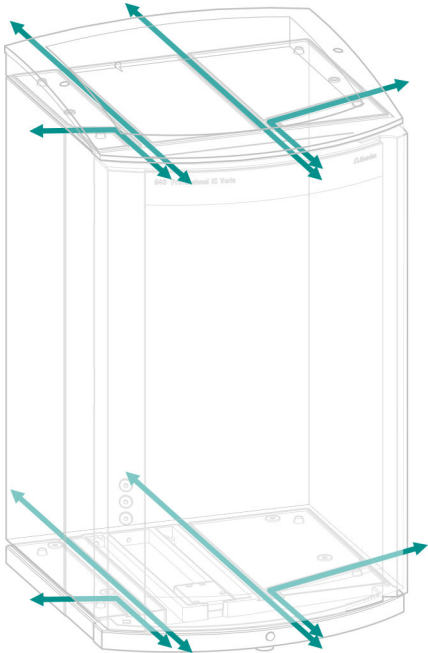

Figure 5 Ducts for capillaries
- Ducts between the instrument and the base tray as well as between the instrument and the bottle holder (*see figure 5, page 13*)